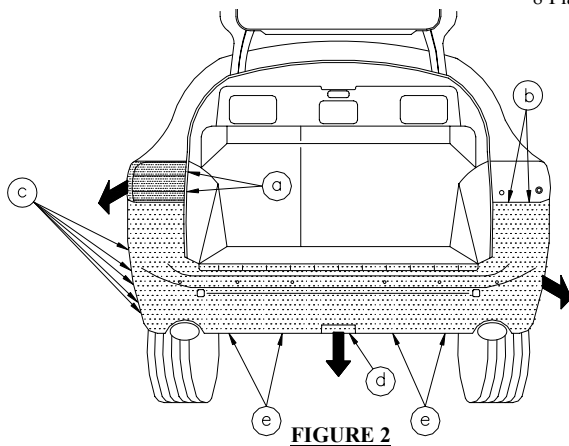

FIGURE 2
①	Qty. (2)	Carriage bolt 1/2" x 1 3/4"	③	Qty. (2)	Lock washer 1/2"
②	Qty. (2)	Block 1/4" x 1" x 3"	④	Qty. (2)	Hex nut 1/2"
- Remove rear fascia as shown in figure 2: